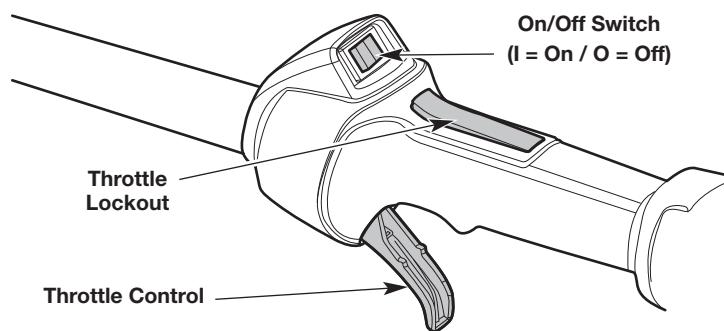

Fig. 7
NOTE: There is no need to turn the unit on. The On/Off switch is in the **On (I)** position at all times (Fig. 7).
NOTE: DO NOT squeeze the throttle control (Fig. 7) until step 6.
6. Press and hold the throttle lockout (Fig. 7). Squeeze the throttle control as needed for operation (Fig. 7).
2. Press and hold the On/Off switch in the **Off (O)** position until the engine comes to a complete stop (Fig. 7).